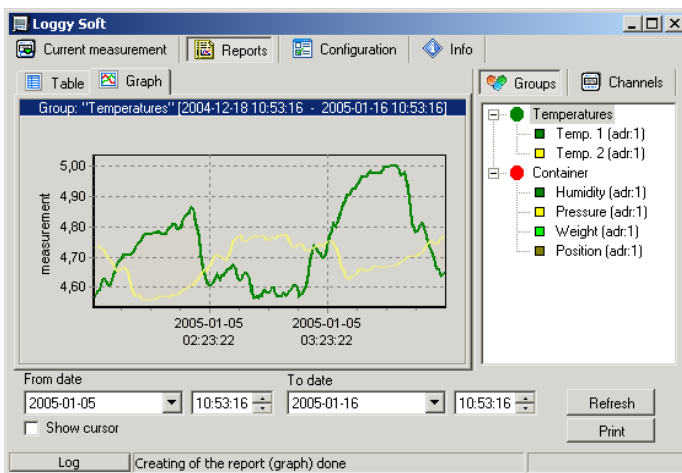

Fig. 3.6. Reports - Graph tab
**Graph** tab (Fig. 3.6) is used for viewing and printing of measurement results recorded by device (e.g. temperature, humidity) in the form of a graph. Measurements from a maximum of five recorded measurement channels can be viewed.
- **graphs area** - plots measured values (e.g. temperature, humidity) in function of time. Each channel is distinguished by a different colour (Fig. 3.6);
- click appropriate tab **Groups** or **Channels** (Fig. 3.6),